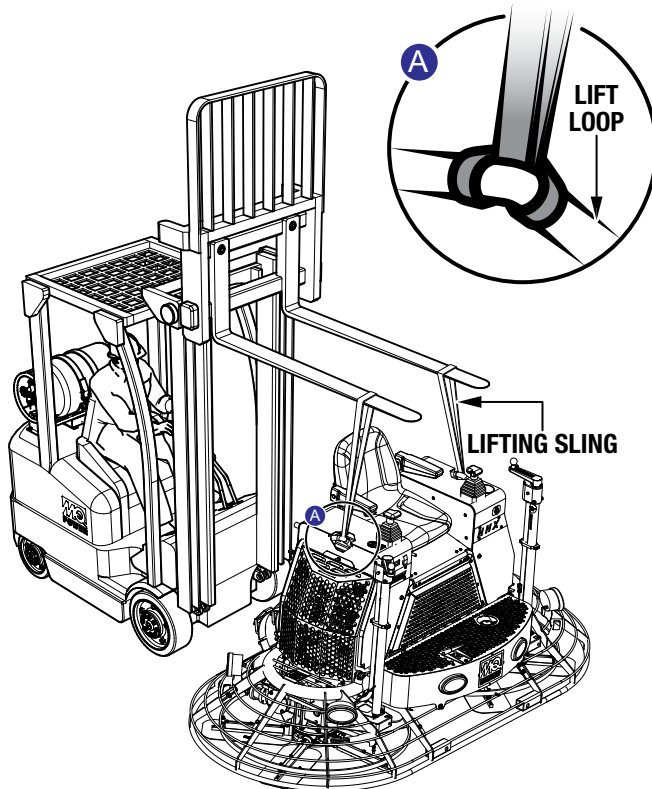
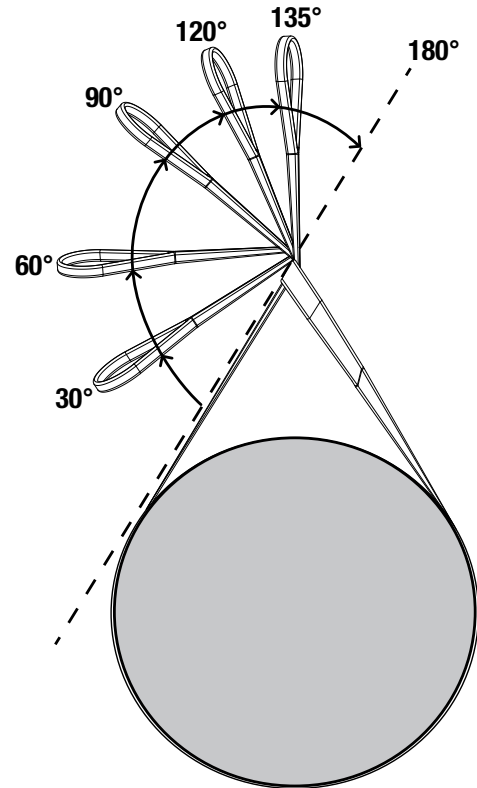

Figure 2. Lifting The Trowel
Figure 3. Choke Angle
1. Secure the two lifting slings to the lift loops located on the left and right side of the trowel (Figure 2).
2. Insert forklift forks through the loops at the ends of the lifting slings (Figure 2). Keep the slings as close to vertical as possible. If the choke angle (Figure 3) is 120 degrees or less, the lifting strength of the slings must be de-rated as shown in Table 1, in accordance with ASME Standard B30.9.